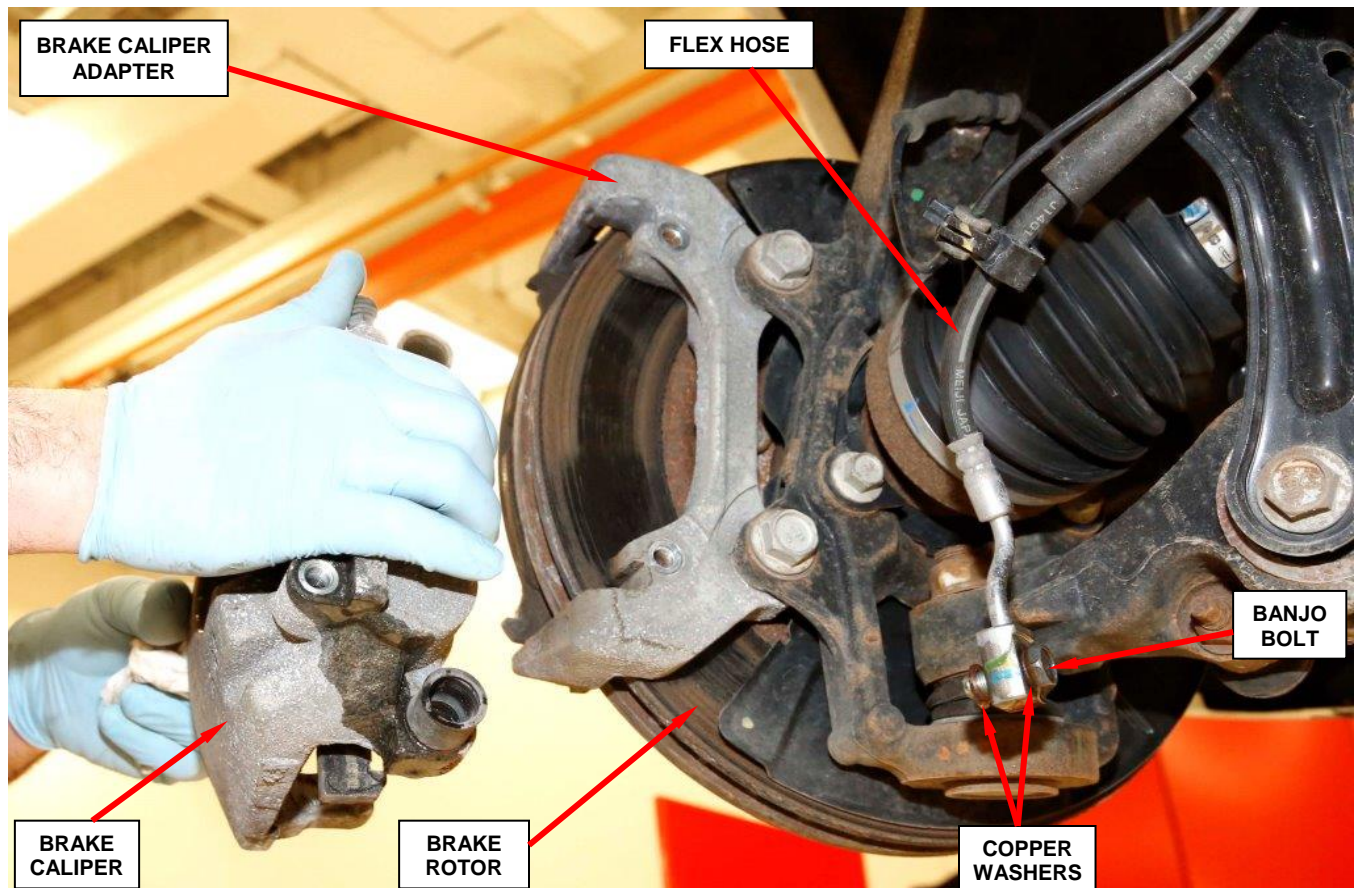

Figure 7 – Brake Caliper Removal
9. Remove the original left brake caliper from the brake caliper adapter (Figure 7).